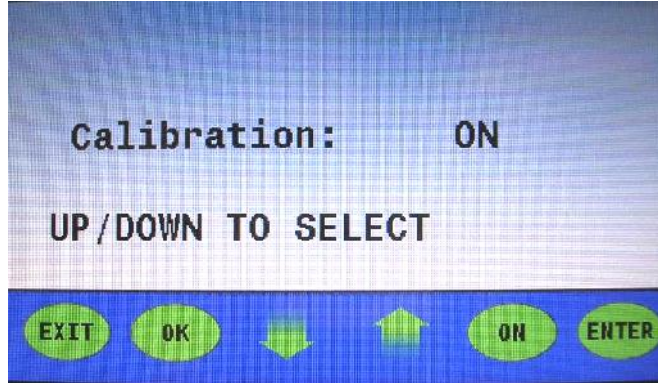

Figure 9
37. Press the up or down arrow to change "TABLE" to "ON". **(Figure 9)**